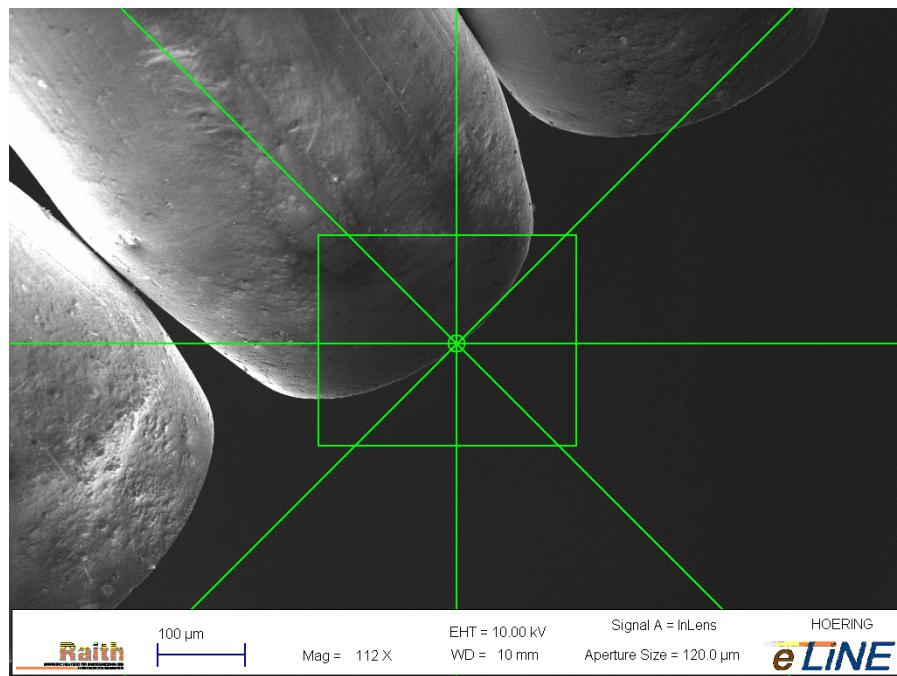

Figure 21-20: Focus on the center nozzle
- Move the nozzle block with the arrow keys to adjust the center of the nozzle's front edge in the center of the crosshairs (⇒ Figure 21-20 on page 21-35).
If it differs significantly from 10 mm the offset values will not be reliable and the adjustment procedure has to be repeated. Make sure that during focussing a working distance of 10 mm is reached (**WD** value in \Rightarrow Figure 21-20 on page 21-35).